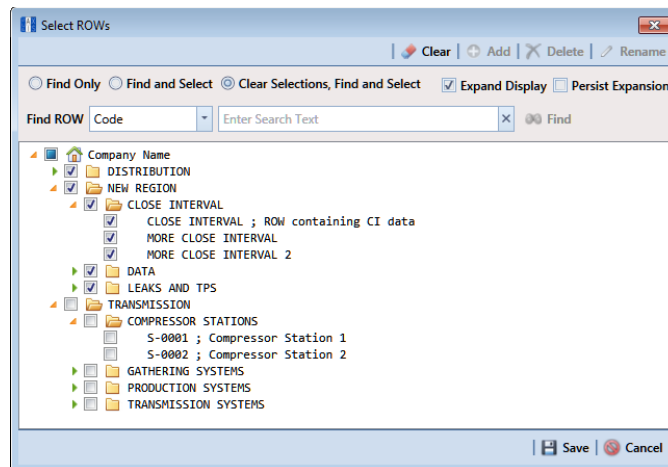

Figure 8-74. Select ROWs
- 1 Click the **Select ROWs** button  to open the *Select ROWs* window (Figure 8-74). Select one or more pipeline segments with facilities you want to include in the route. Click  **Save** to close the window.